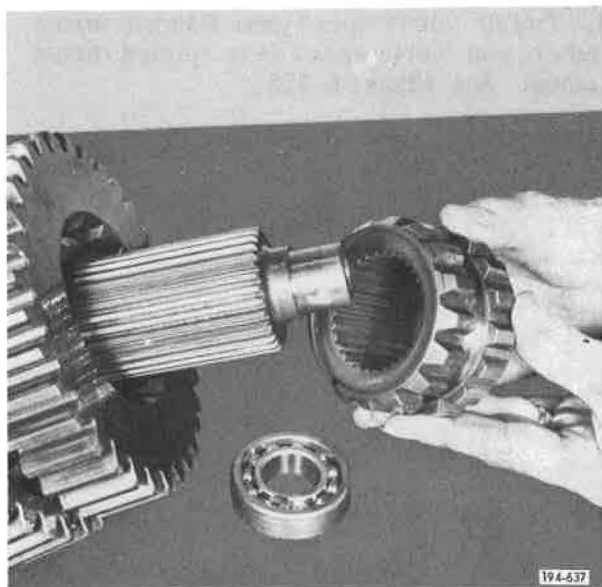

Figure 5-957. Installing Clutch
18. Install fourth/fifth speed sliding clutch. See **Figure 5-957**.